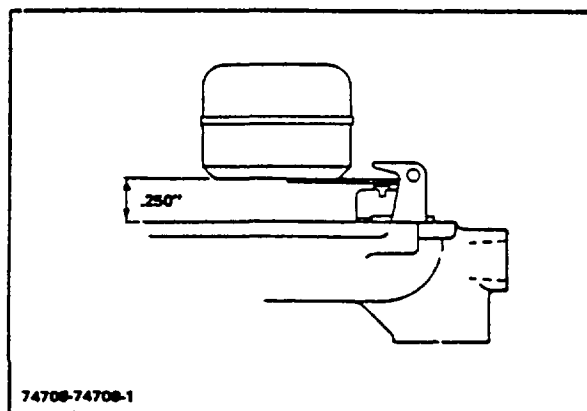

Figure 4-7. Float Setting
8. Measure distance from gasket on throttle body. Distance (Fig. 4-7) should be .250" from gasket face to nearest edge of float. Use a long nosed pliers to bend lever as necessary to attain this measurement.